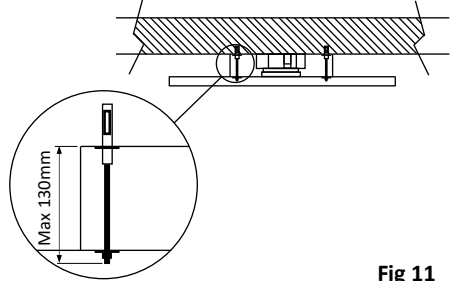

Fig 11
8. Only tighten the bolts so the hood is fixed securely to the ceiling. If you tighten too much you will damage the frame (Fig 11).